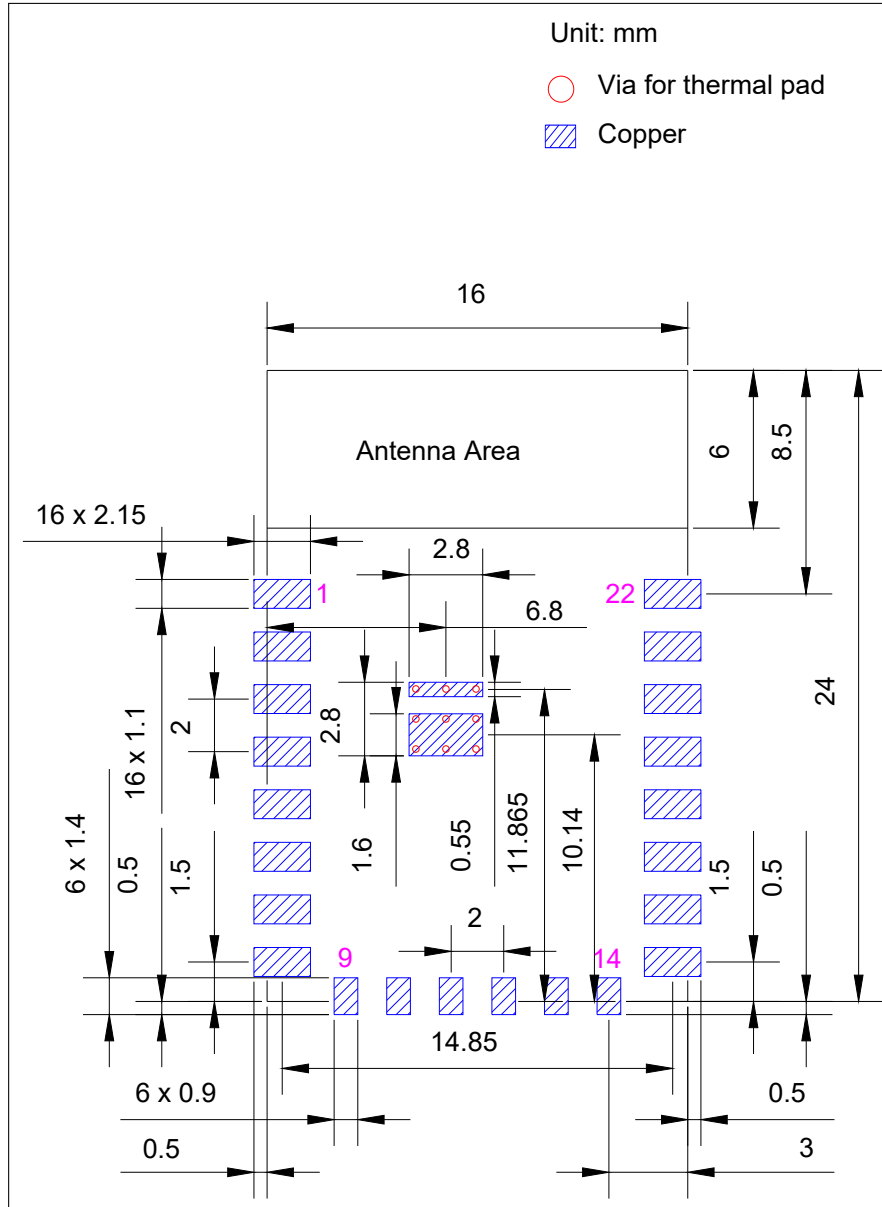

Figure 7: Recommended PCB Land Pattern
- Figure for the recommended PCB land pattern with all the dimensions needed for PCB design. See Figure 7 *Recommended PCB Land Pattern*.
- Source file of the recommended PCB land pattern to measure dimensions not covered in Figure 7. You can view the source files for ESP8684-WROOM-01C with Autodesk Viewer.